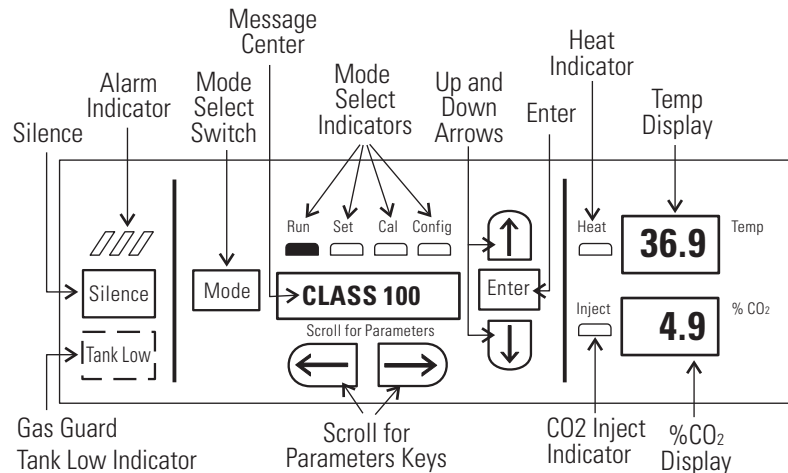

Figure 1-2. Control Panel
- Control Panel - Keypad, Displays and indicators (Figure 1-2).